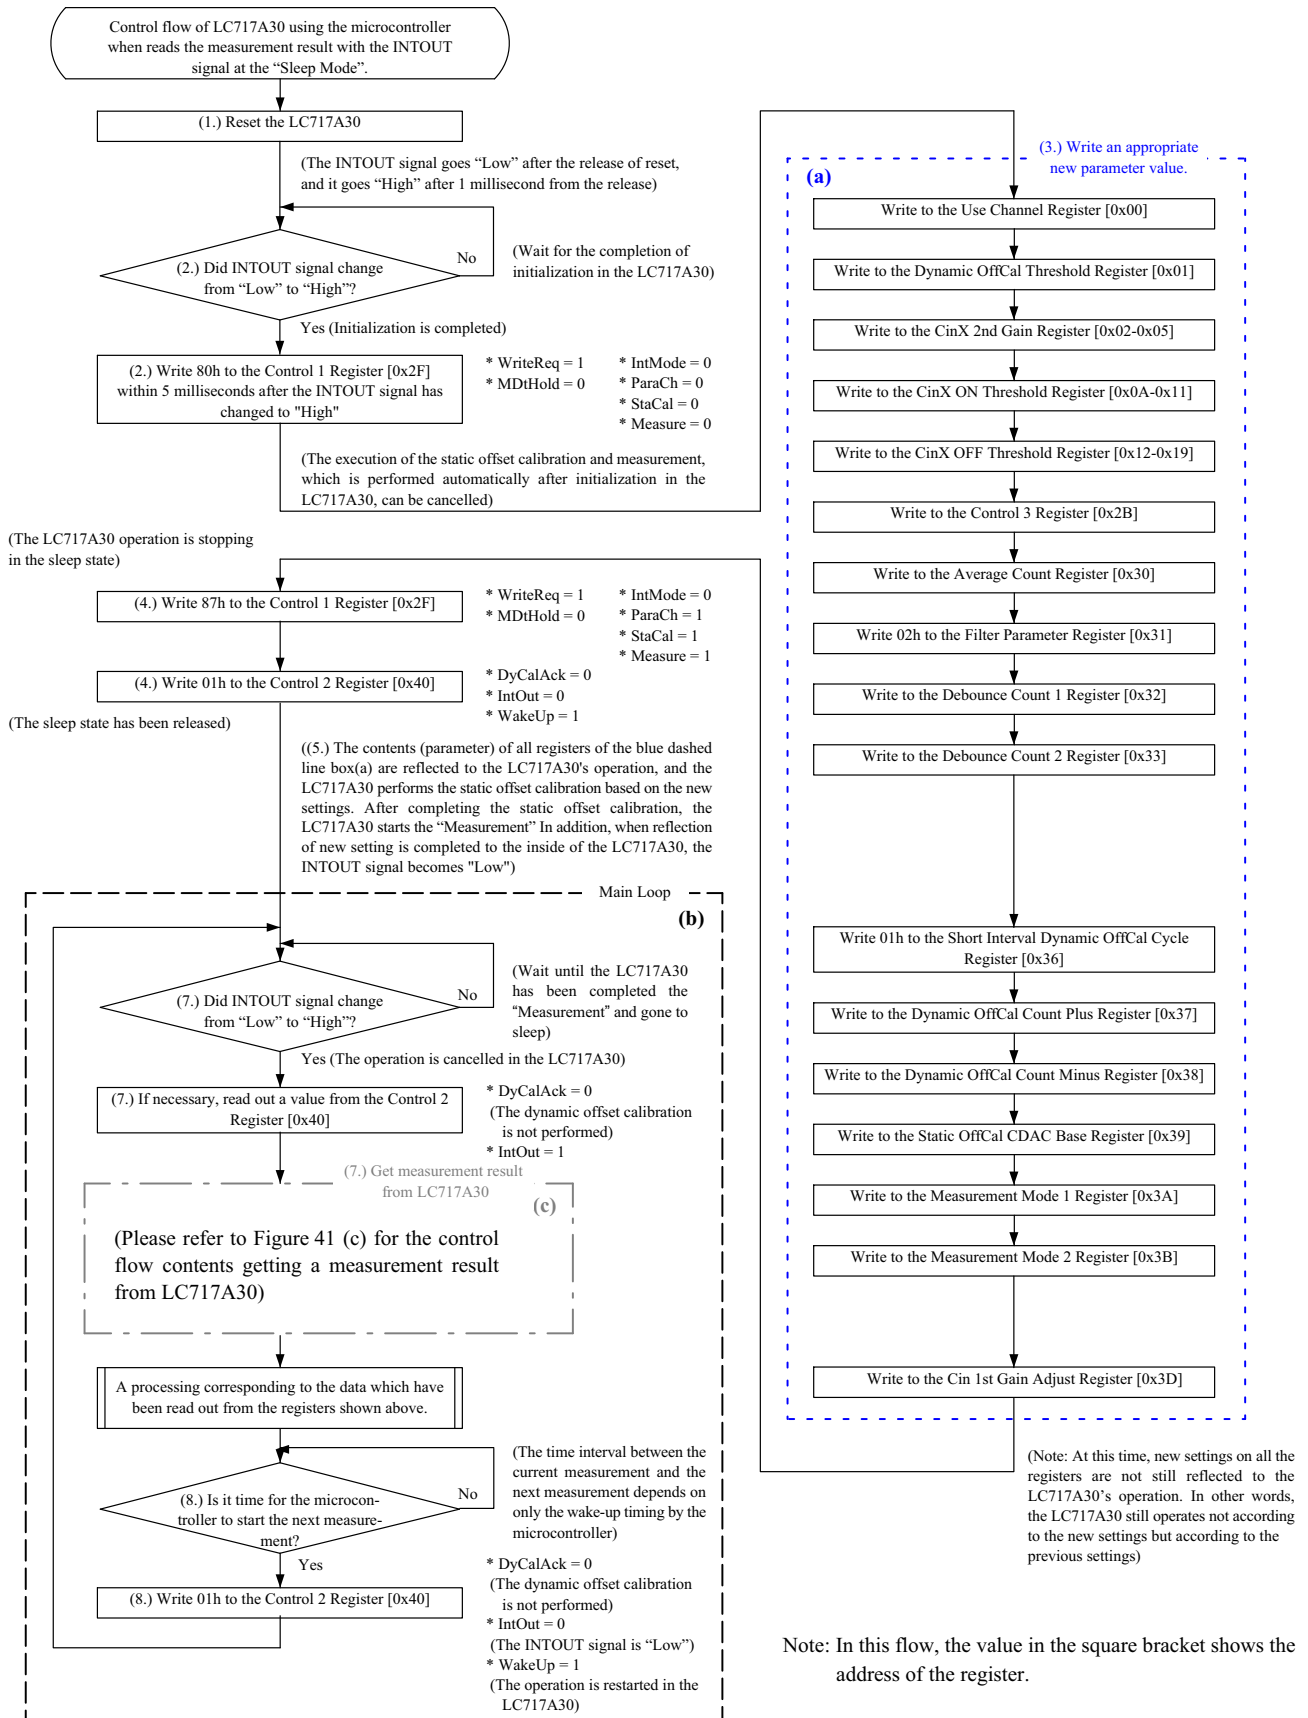

Figure 45. Control Flow Example When the Microcontroller Reads the Measurement Result with the INTOUT Signal at the "Sleep Mode"
3. The LC717A30 goes to sleep shortly (Operation stop). The microcontroller writes an appropriate parameter value to each register of the LC717A30 over the I²C bus or SPI. (For more information about registers the microcontroller may write a parameter to, refer to the inside of the blue dashed line box(a) on the control flow figure shown in Figure 45) Especially, In this example, the microcontroller writes “0” to both the INTMD1 bit and the INTMD2 bit in the Measurement 1 Register [Address=0x3A] so that the LC717A30 may not negate (“Low” level) the INTOUT signal automatically.